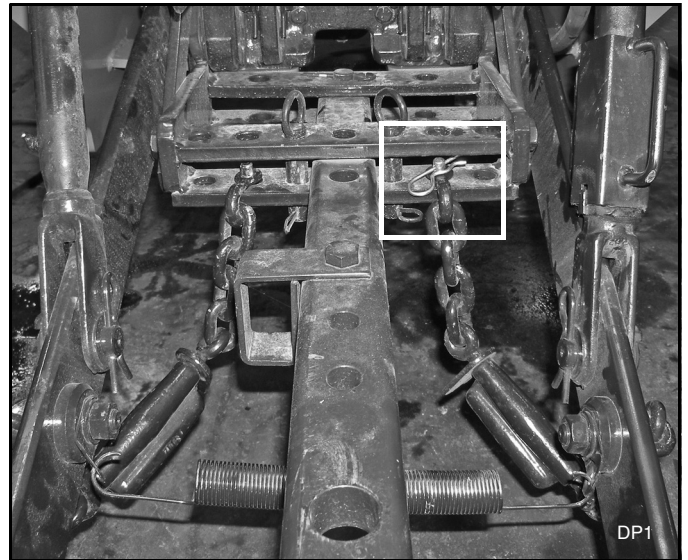

Figure 1. Reposition Anti-Sway Links
2. Disconnect the tractor anti-sway links from the axle brackets. Secure sway links to the drawbar bracket with sway link pins and safety pins (22) supplied in kit. See Figure 1.